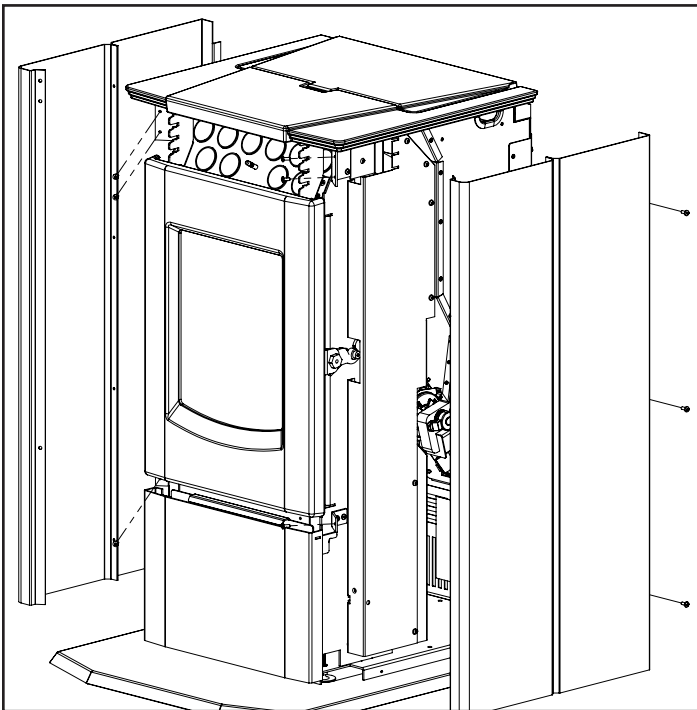

Figure 3: Cabinet Side Install
2. Next install the Cabinet Sides. There are six screws for mounting each cabinet side. Start by installing screws at front top of the panels, Do not fully tighten screws. Now get the back top screws started. Now install the rest of the screws and tighten them down. See Figure 3.